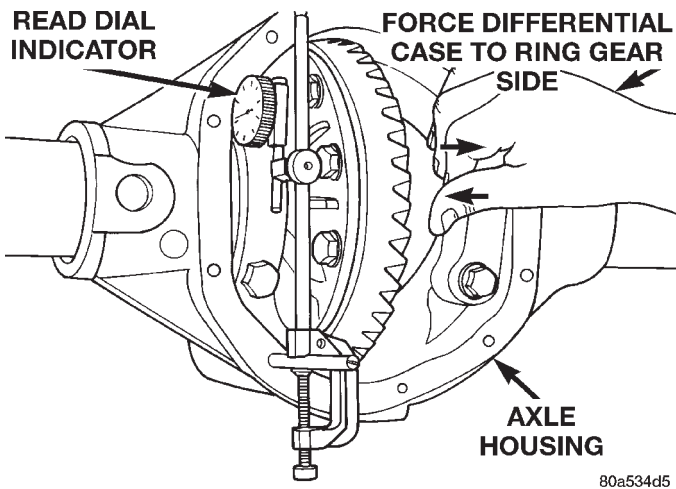

Fig. 58 Hold Differential Case and Read Dial Indicator
(12) Push and hold differential case to ring gear side of the axle housing (Fig. 58).
(13) Record dial indicator reading (Fig. 58).
(14) Add 0.010 in. (0.254 mm) to the zero end play total. This new total represents the thickness of shims to compress, or preload the new bearings when the differential is installed.